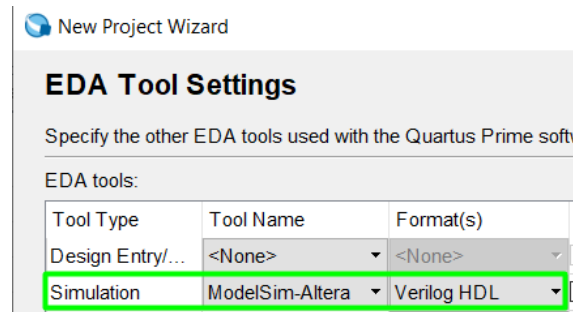

Figure 2
- f. **EDA tools: ModelSim Altera; Verilog HDL** (see Figure 2)